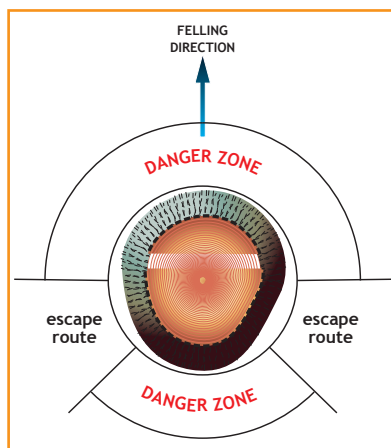

Figure 1: Escape routes
8. Decide the direction of fall and select a suitable escape route (see figure 1). Ensure the escape route is clear of obstructions.